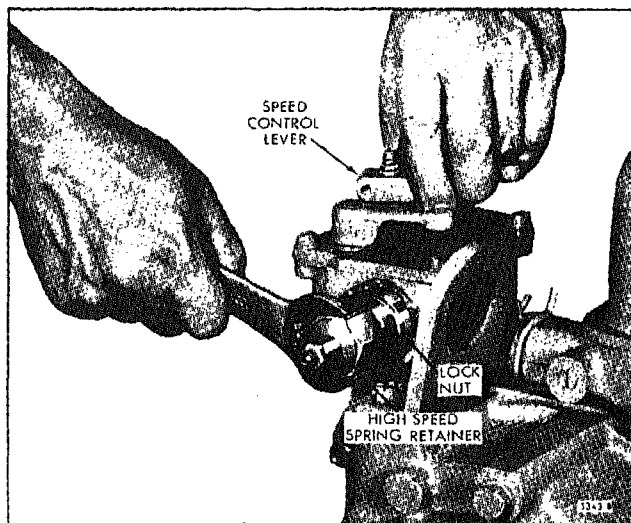

Fig. 3 - Adjusting Maximum No-Load Engine Speed
1. Loosen the lock nut (Fig. 3) and back off the high speed spring retainer approximately five turns.